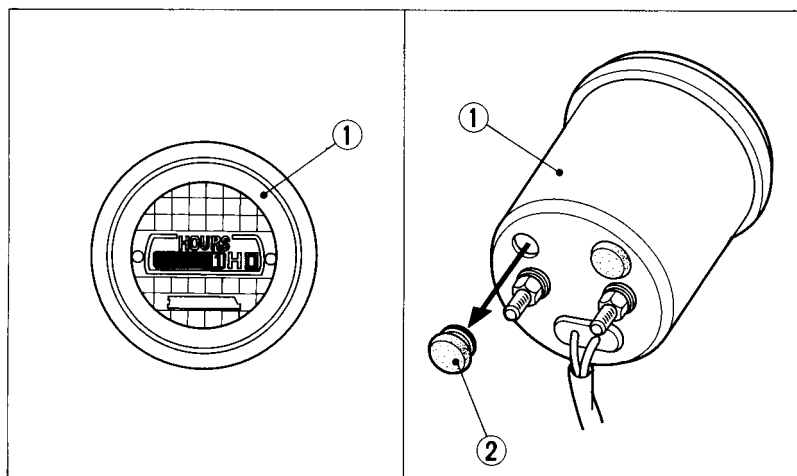

Fig. 2-16
The hourmeter (Fig. 2-16) shows hours and tenths of hours that the engine has run. It is operated when the ignition switch is turned ON, providing accurate means of knowing when the TRX300 is to be serviced. Remove the rubber cap (2) below the hourmeter when the meter glass is clouded. Reinstall the cap securely after the meter glass becomes cleared.